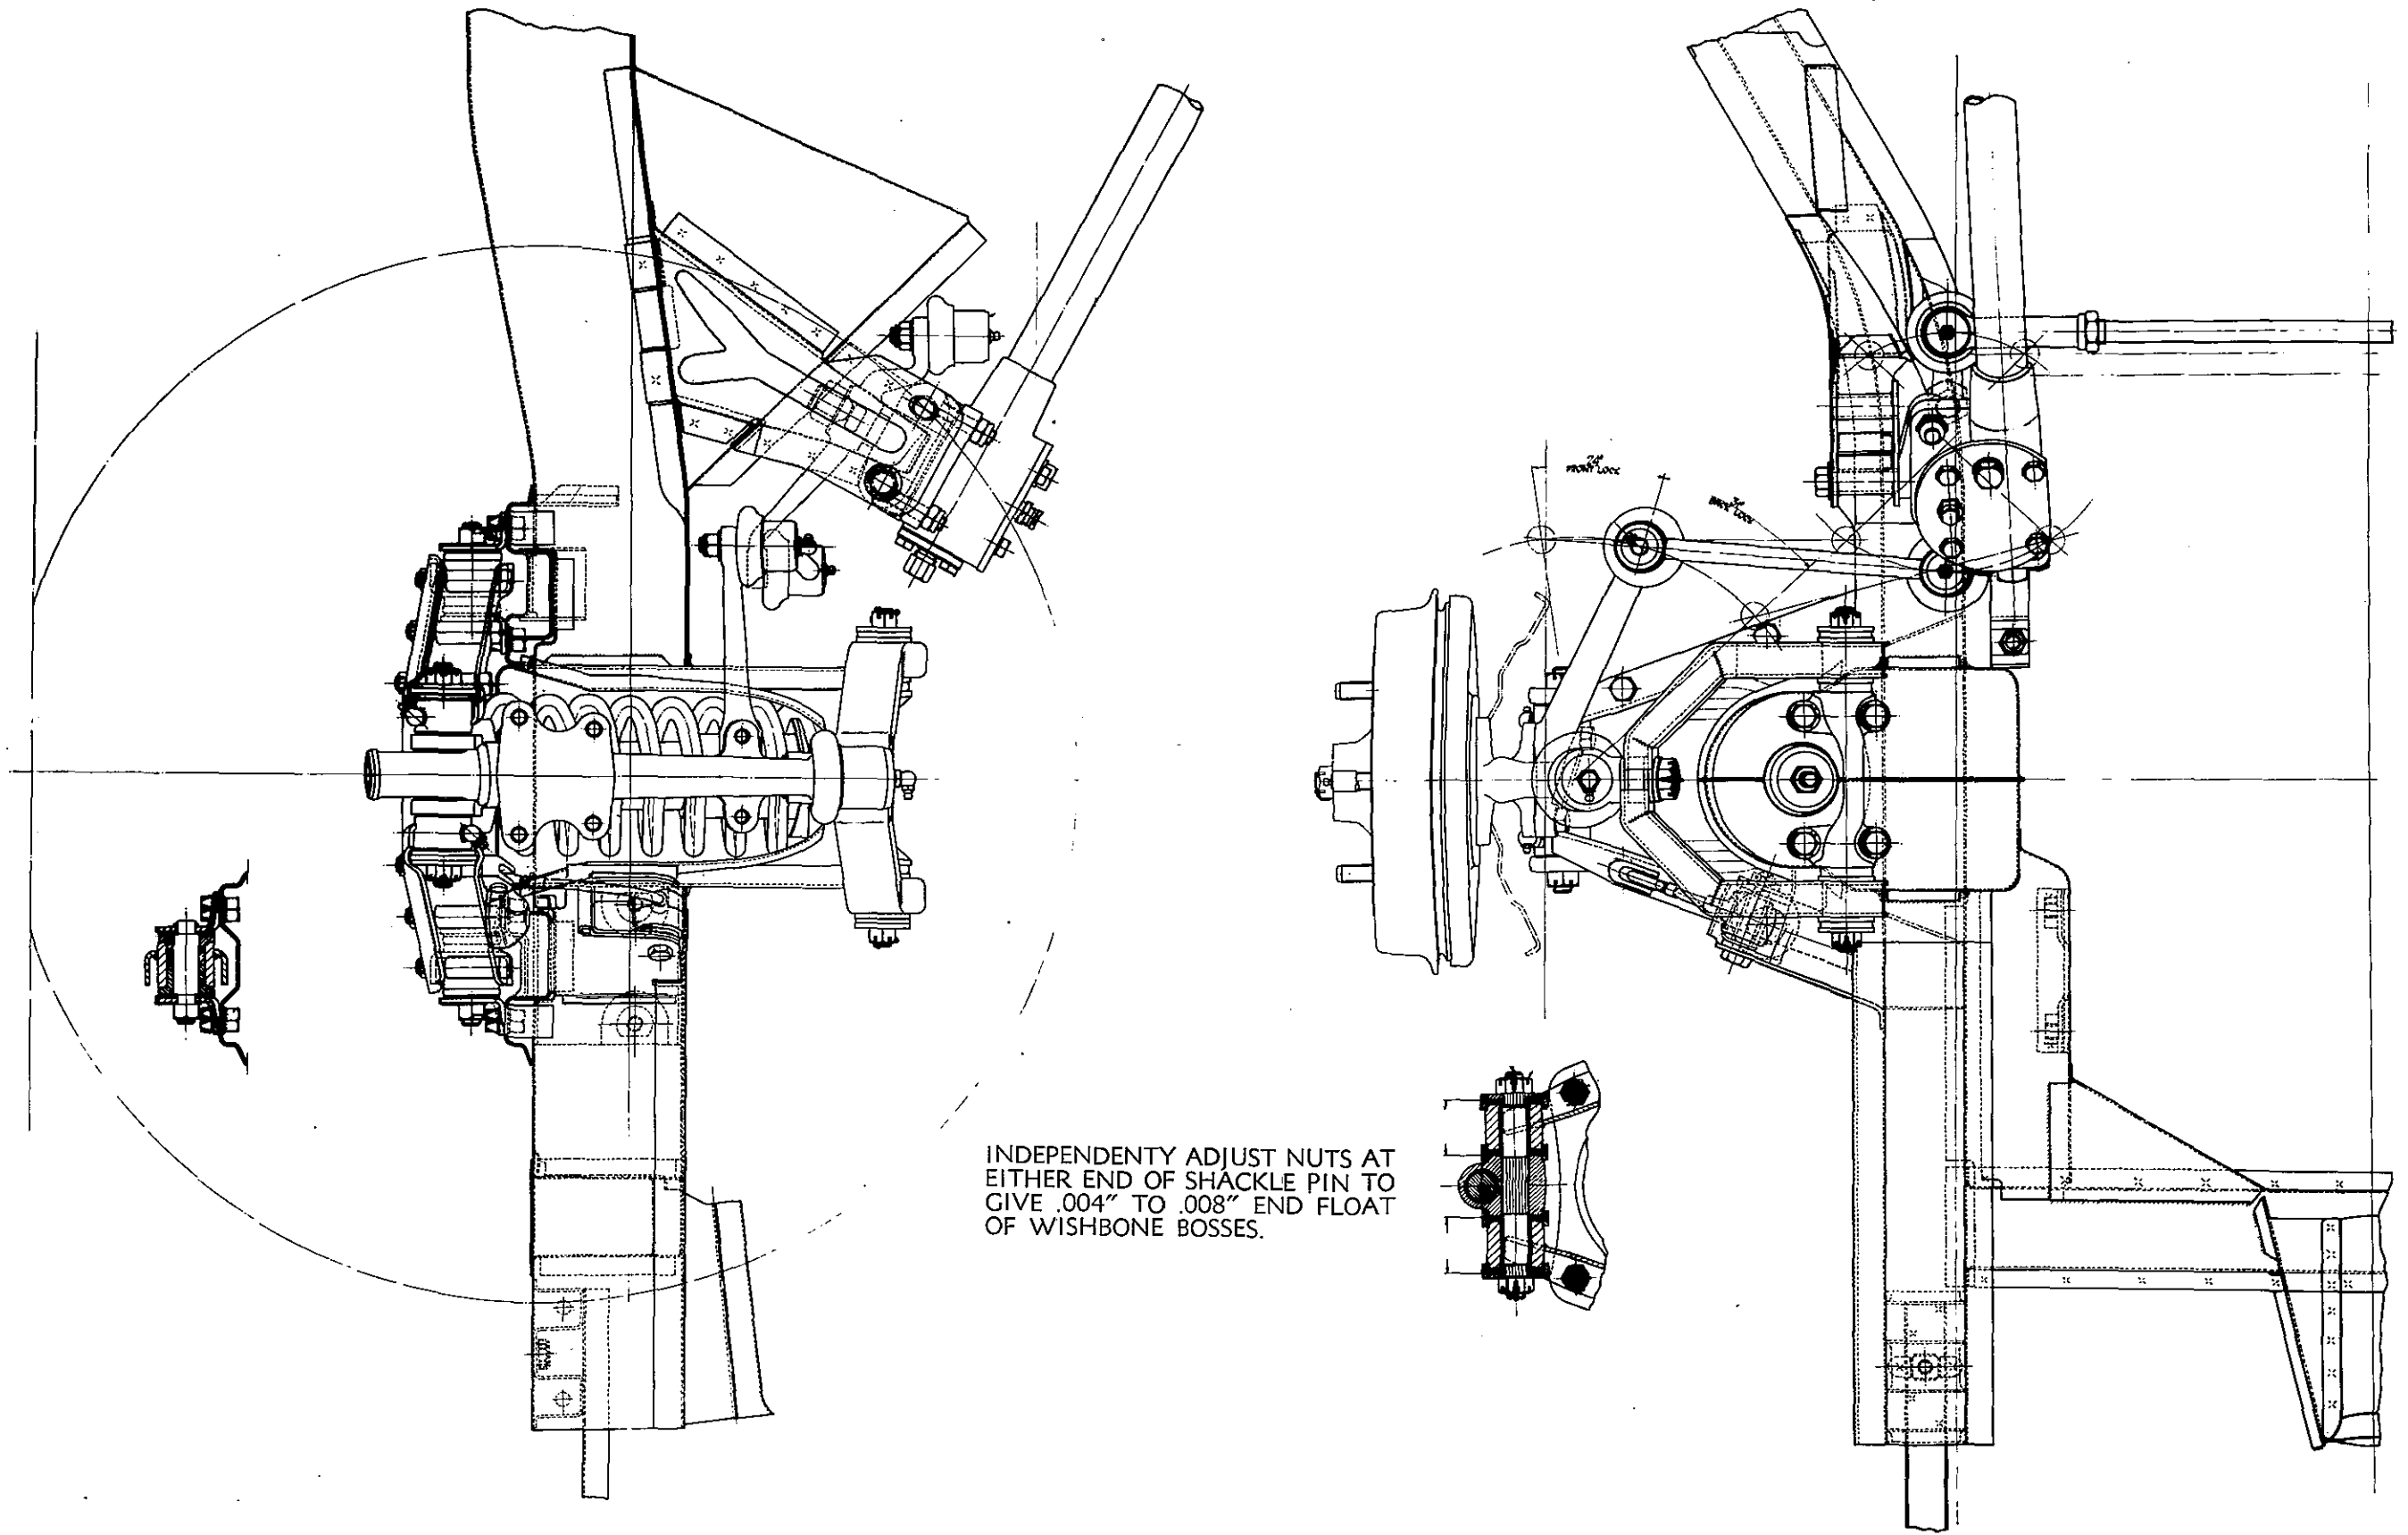

Fig. 1. Longitudinal plan and side elevation of front suspension unit
**Description.** (See Figs. 1 and 2).